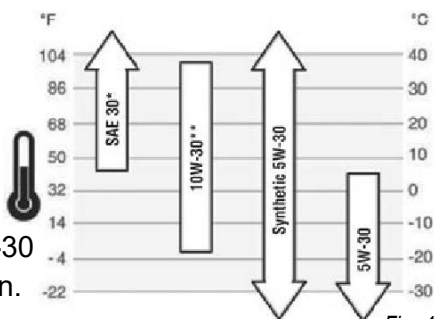

Fig. 4
4. SAE 10W-30 is recommended for general, all-temperature use. Other viscosities shown on the chart may be used when the average temperature in your area is within the indicated range (Fig. 4).